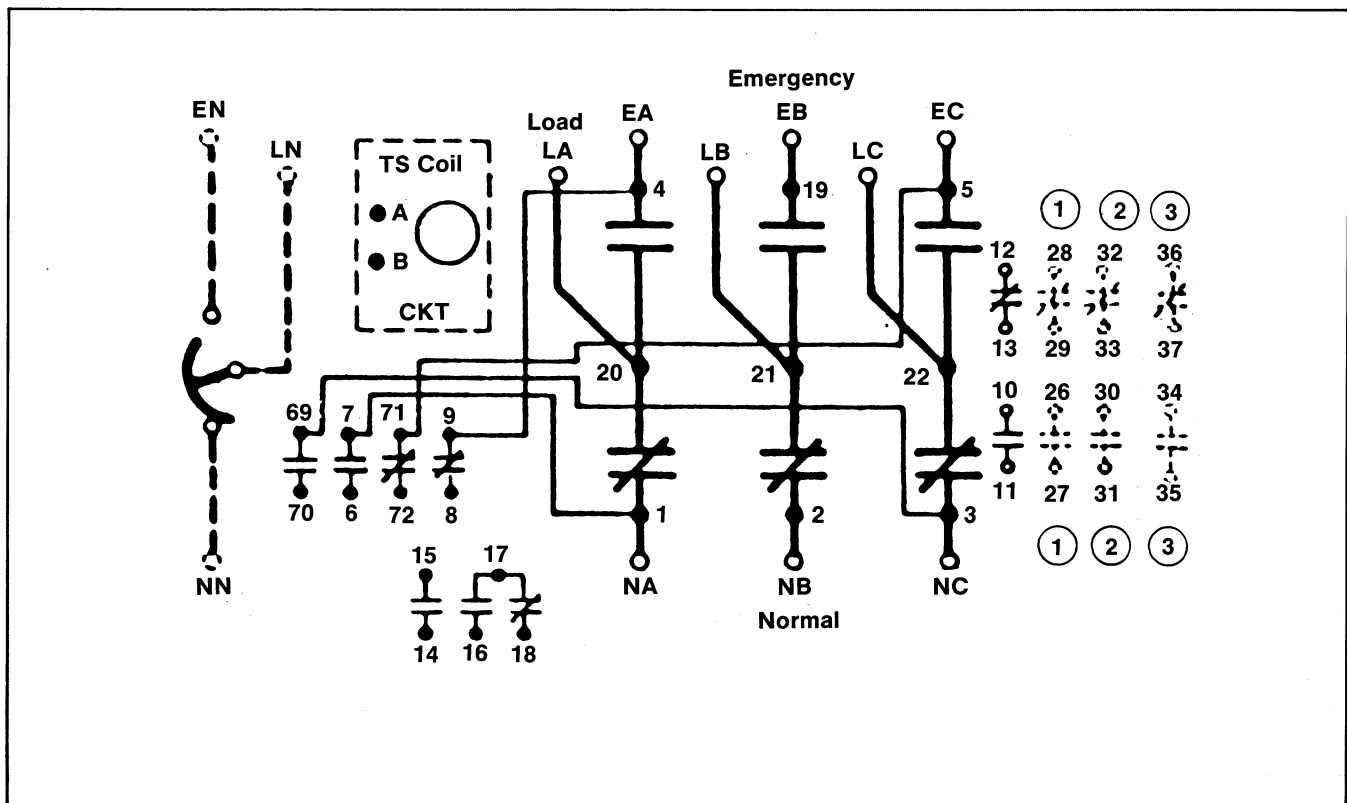

Figure 3-7. Auxiliary/Miniature Contacts Wiring Diagram (Normal Position shown)
For location of contacts and terminals see wiring diagram (Figure 3-7).
- 3. Replace using original hardware. For location of contacts and terminals see wiring diagram (Figure 3-7).